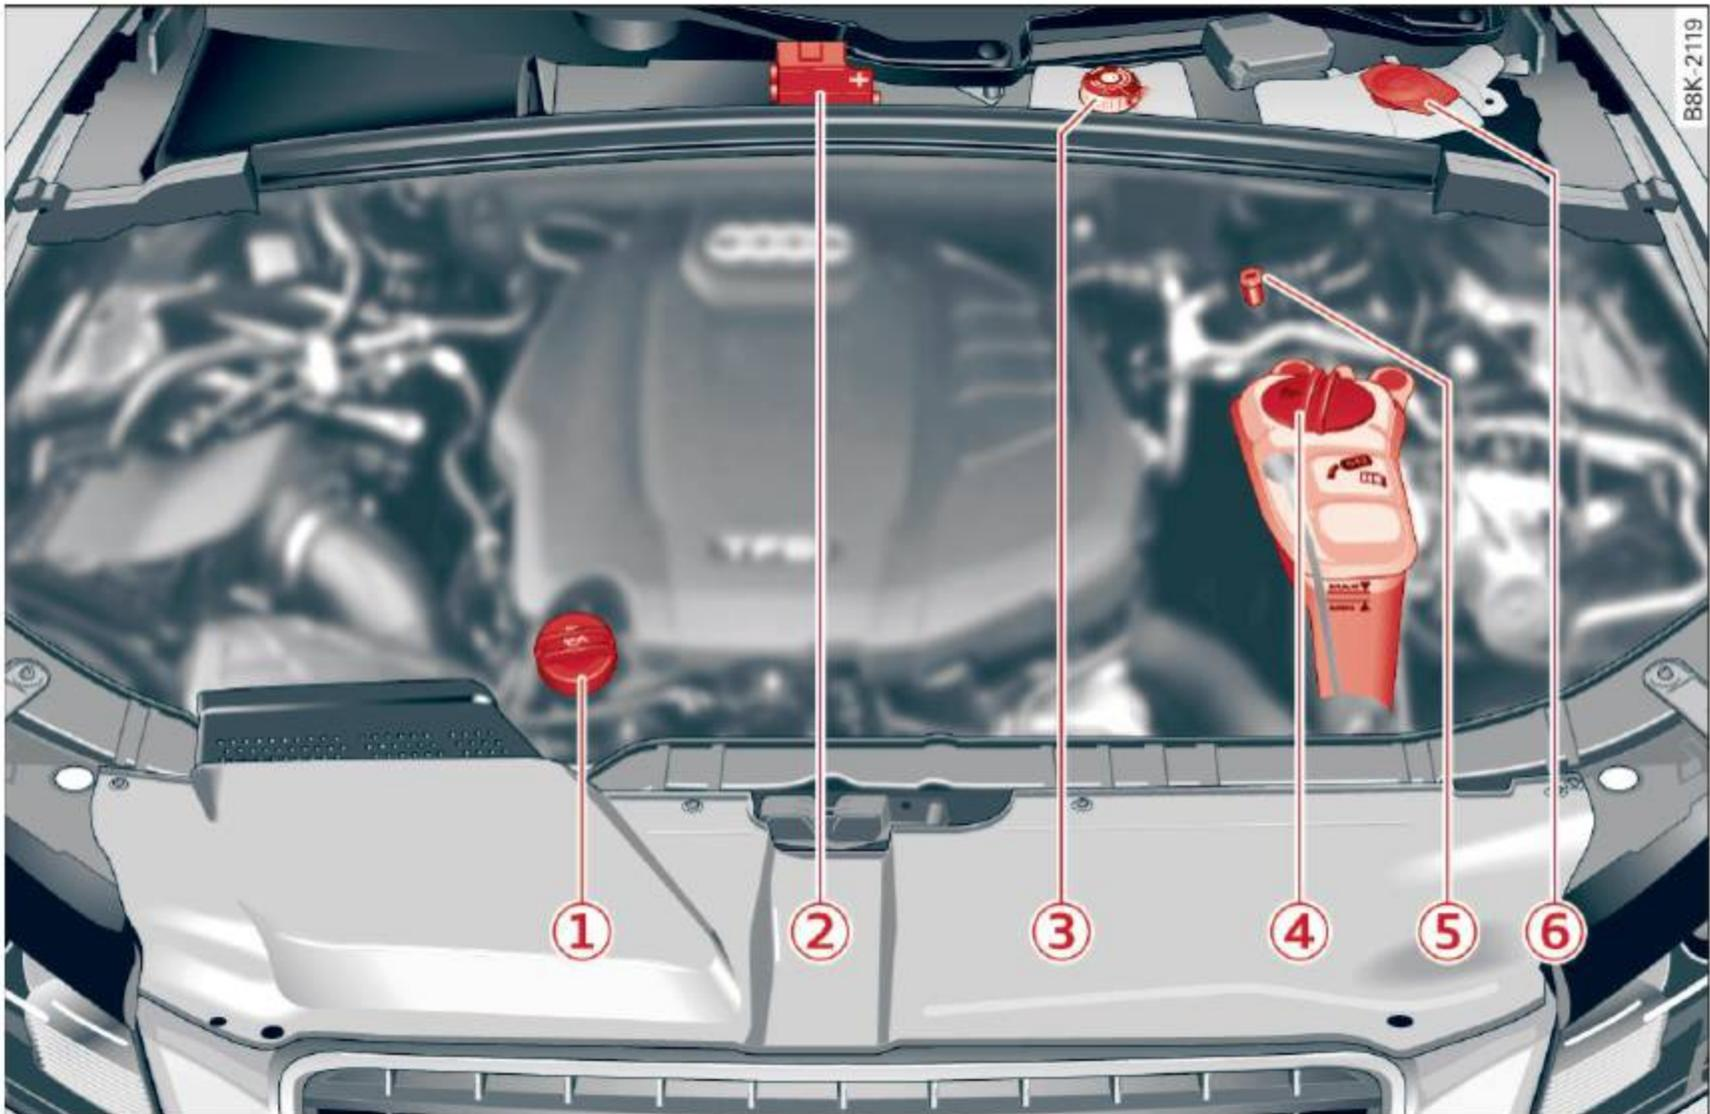

Fig. 184 Typical layout for containers and engine oil filler cap
- ① Engine oil filler cap (🛢️) 224
- ② Jump start point (+) under a cover 232, 270
- ③ Brake fluid reservoir (⊖) 228
- ④ Coolant expansion tank (🌊) ... 227
- ⑤ Jump start point (-) with hex head screw 232, 270
- ⑥ Windshield/headlight* washer container (🚿) 233
The position of the engine oil filling hole ⇒ fig. 184 (item ③) can differ depending on the engine design.
- ▶ Unscrew the cap to the engine oil filling hole ⇒ *fig. 186*, ⇒ *page 221*, *fig. 184*.